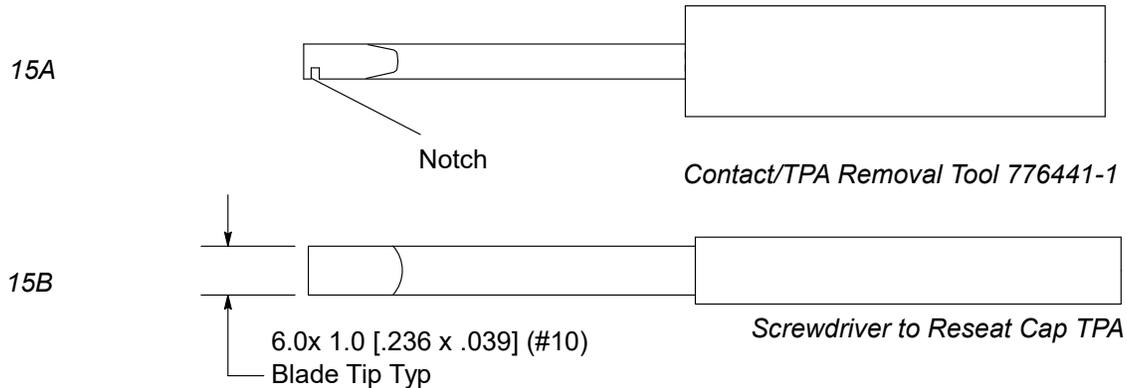

Figure 15
2. Push the TPA into the pre-staged position by using a screwdriver or equivalent with a blade as described in Figure 15. Verify the correct position by using the procedure indicated in Paragraph 3.3.A.1.